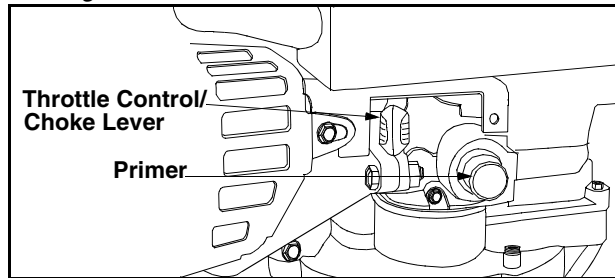

Figure 8
- Depress the primer bulb firmly with your thumb three times. Wait about two seconds between each push. Do not use the primer to restart a warm engine after a short shutdown. See Figure 8.
- Move throttle control / choke lever on engine to CHOKE position. (A warm engine may not require choking.) See Figure 8.